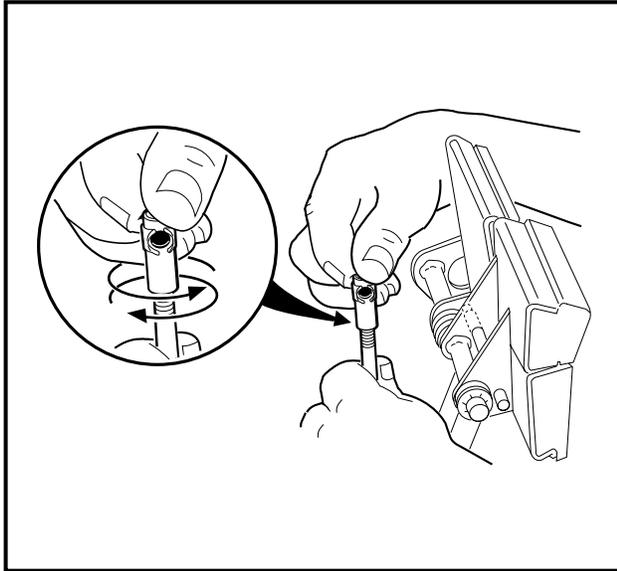

Figure 5-30 Brake Rod Adjustment
- 4.6. If ratchet/pawl engagement must be adjusted, disconnect the ball joint at the top of the brake rod and rotate the ball joint sleeve clockwise to increase engagement or counterclockwise to decrease engagement. Reconnect ball joint (**Figure 5-30, Page 5-20**).